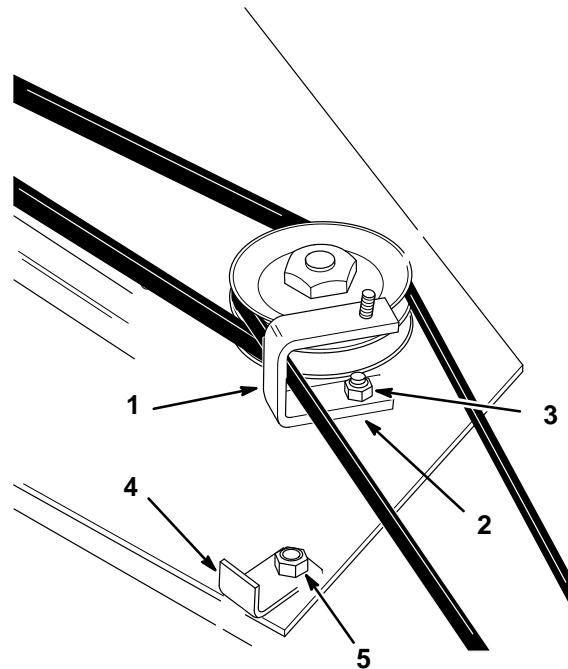

Figure 9
14. Fasten the spring clip to the deck using a 5/16"-18 x 3/4" (19 mm) bolt and locknut (Fig. 9).
1. Fasten the spring clip to the deck using a 3/8"-16 x 3/4" (19 mm) bolt, with head below housing, and secure with locknut (Fig. 9).
2. Remove the existing hardware from spindle mounting hole, then fasten the belt shield bracket to the spindle hole using a 3/8"-16 x 1-1/4" (32mm) bolt, washer under the bracket, and locknut (Fig. 9).
7. Install the drive belt as shown around the idler pulleys and right side mower pulley (Figs. 9 and 13).